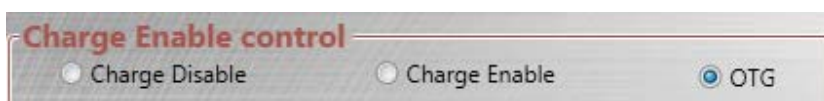

Figure 21: Charge Enable Control Menu
4. Pull JP3 to high, and select OTG from the Charge Enable Control menu (see Figure 21).